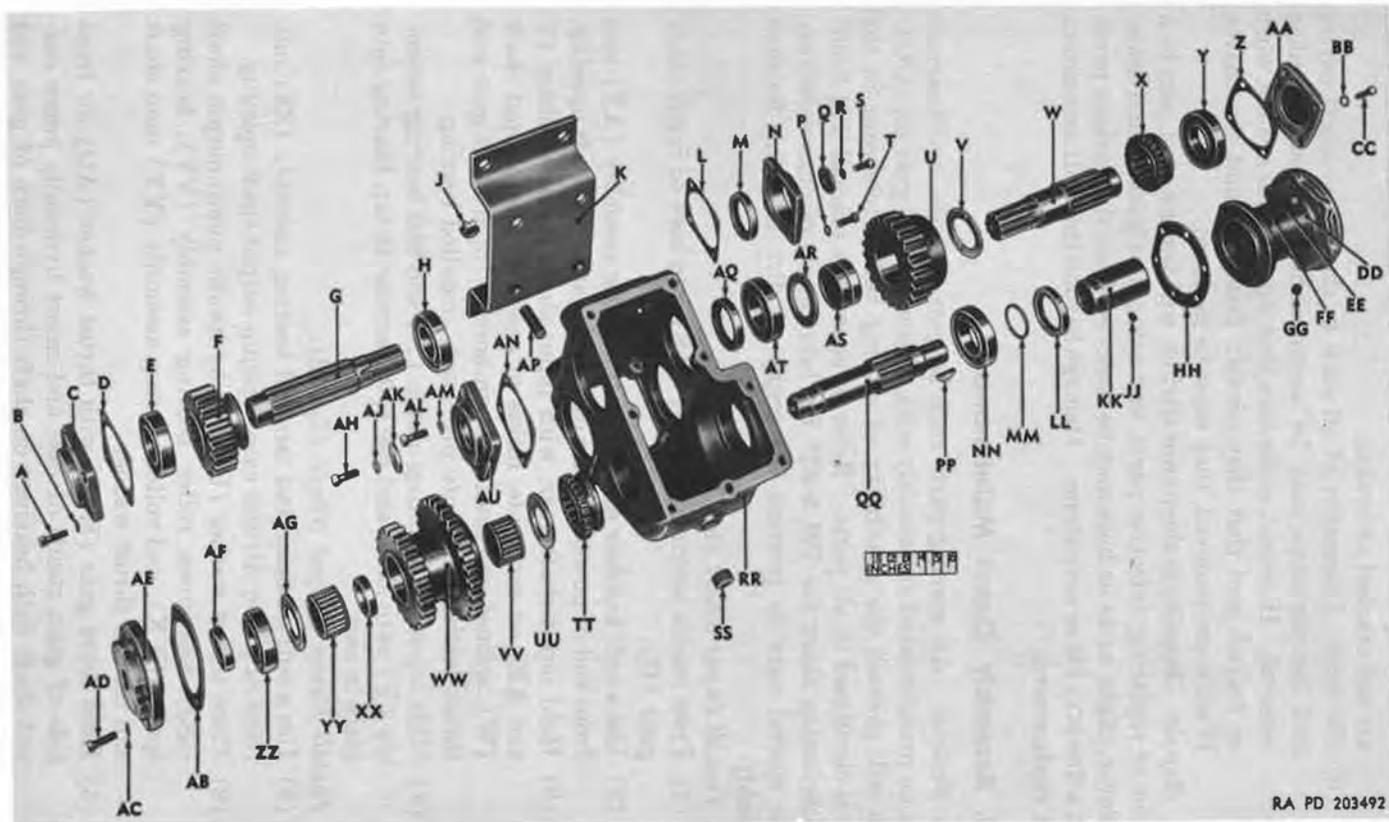

Figure 93. Power divider with mounting bracket assembly—exploded view
*a. General.* All moving parts such as gears, shafts, and bearings must be prelubricated at assembly with seasonal grade gear oil (GO). This will prevent the possibility of scoring before lubricant in the case is circulated to all parts. Refer to operator's manual TM 9-837 or lubrication chart for TM 9-837 for lubrication recommendations. Take special care to prevent the entry of dirt into the finished assembly.
*b. Install Input Shaft (fig. 93).*
- (1) Press needle bearing assembly (AS) into bore of input shaft gear (U).
- (2) Use a soft hammer and tap ball bearing assembly (AT) into front end of power divider case (RR) at input shaft opening.
- (3) Hold input shaft gear, with input shaft thrust washers (V and AR) on each side, inside of case and insert input shaft (W), splined end first, through bore of input shaft gear and thrust washers and into previously installed bearing.
- (4) Slide input shaft sliding clutch (X) and ball bearing assembly (Y) onto shaft and use soft hammer to tap bearing into place in case.
*c. Install Pump Output Shaft (fig. 93).*
- (1) Use a soft hammer and tap ball bearing assembly (ZZ) into front of power divider case at pump output shaft opening.
- (2) Place thrust washer (UU) on hydraulic pump output shaft (QQ) and press roller bearing assembly (VV), bearing spacer (XX), and roller bearing assembly (YY) onto shaft and next to thrust washer.
- (3) Hold drive gear (WW) with thrust washer (AG) on front side of gear, inside of case and insert hydraulic pump output shaft with bearings on shaft through bore of gear and thrust washer and into bearing.